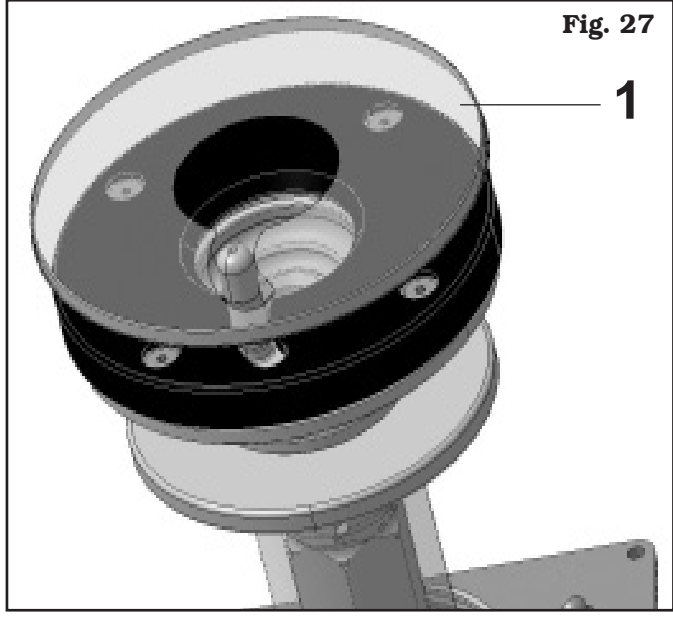

Fig. 27
In case of use of reverse wheels, to protect the rim, apply on the rubber platform a protection made to a transparent plastic material available on demand (**Fig. 27 ref. 1**). We suggest you a constant replacement of it and in any case if there are visible damages (see **Fig. 27**).